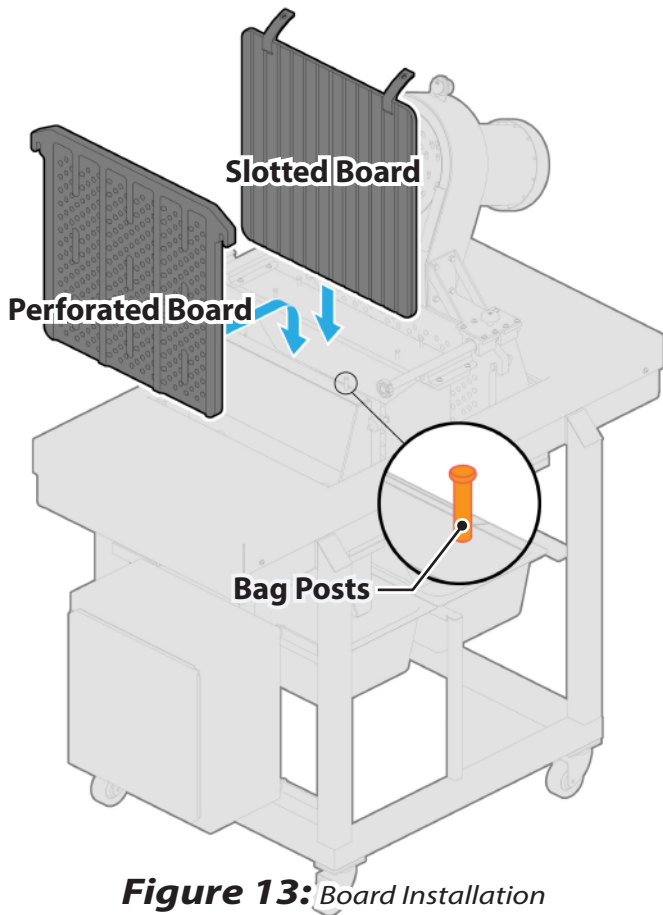

Figure 13: Board Installation
Pay attention to the Board orientation in Figure 13. The “holes” side of the Perforated Board and the “slot” side of the Slotted Board are oriented “inward.”
- Install clean Press Bags into the press area. The Press Bags are designed to be suspended from two sets of Bag Posts (see **Figure 13**). Make sure the opening in the bag is unobstructed. Do not use a Press Bag with broken/tearing seams.